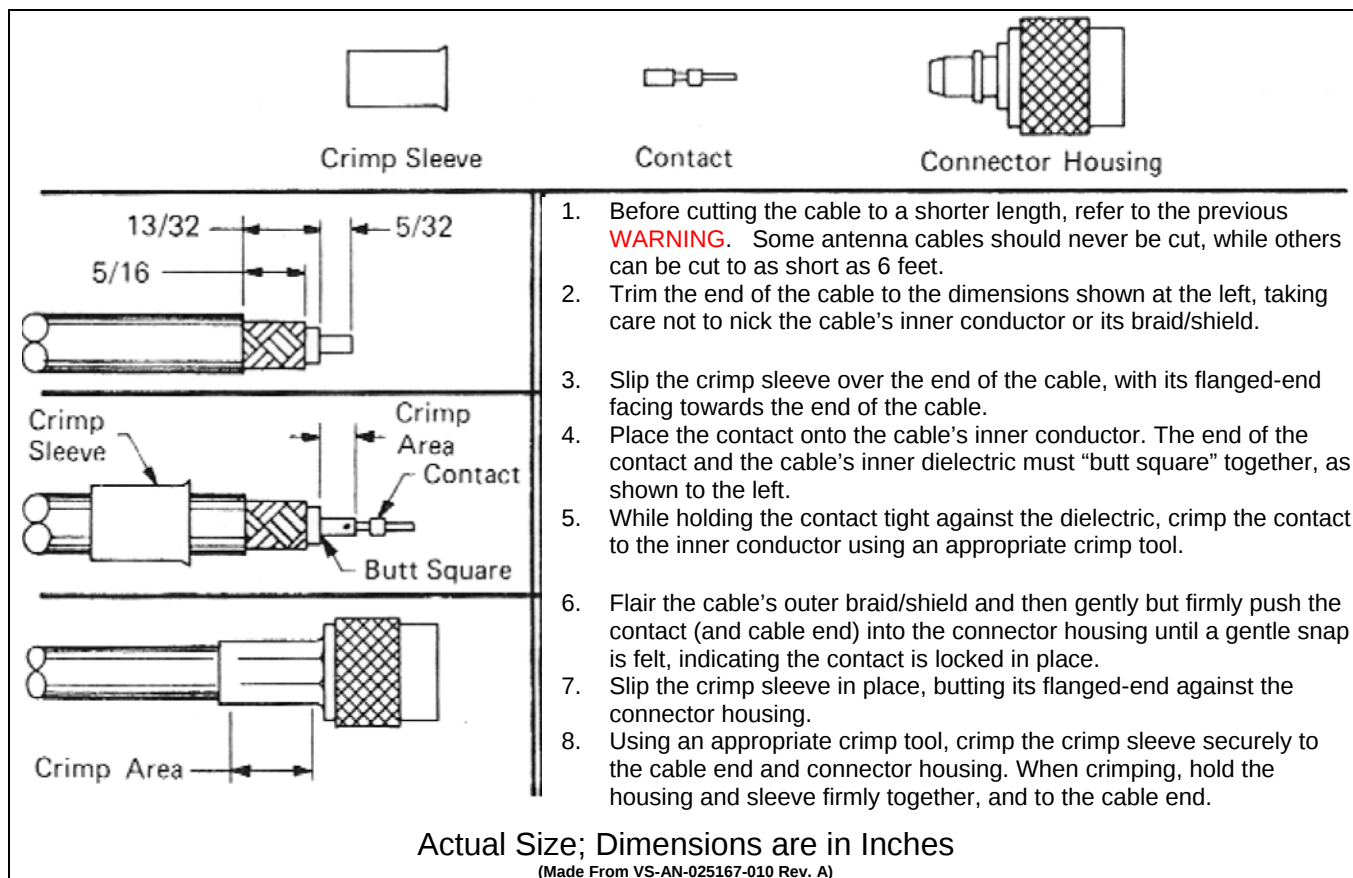

Figure 7-7: Crimping Instructions for TNC RF Connector
2. Using an appropriate crimp tool, crimp the supplied TNC RF connector to the end of the antenna cable. For crimping instructions, see Figure 7-7 or the instructions supplied with antenna mount.